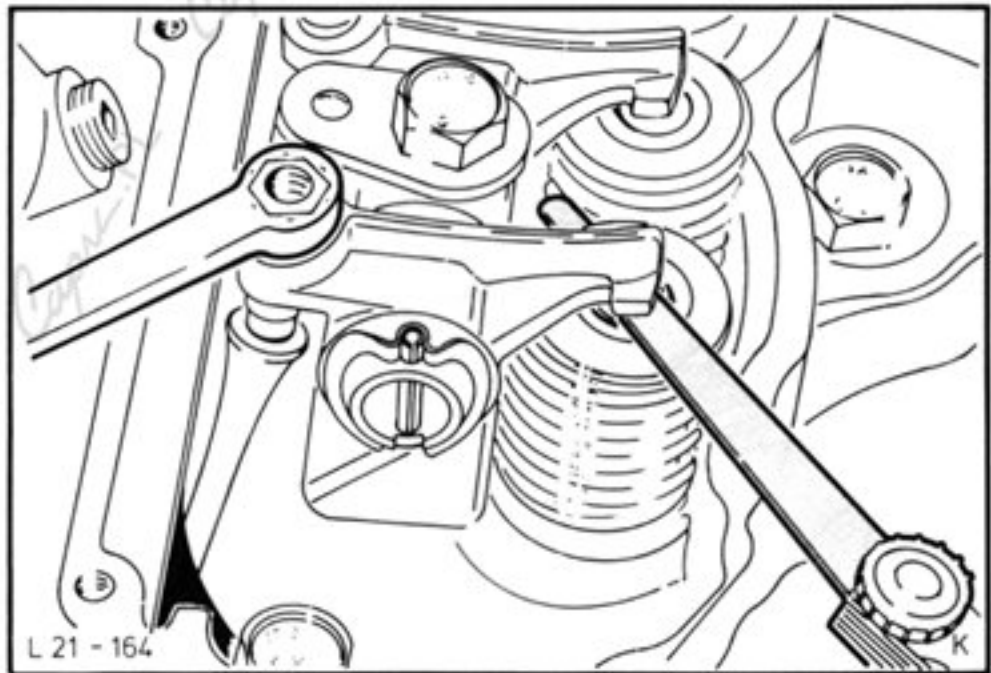

Fig.104. Adjust valve clearances.
4. Adjust valve clearances, Fig.104. proceeding as follows: